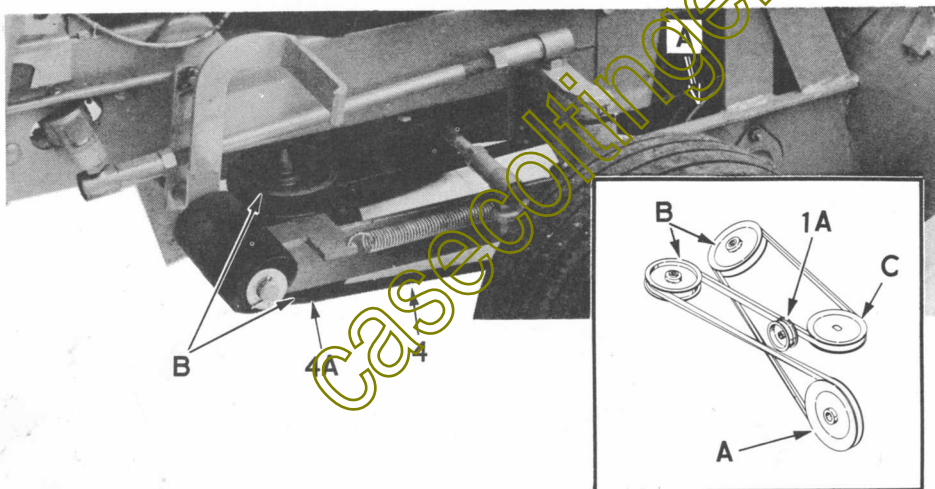

Figure 33
4. Install the drive belt first around the front of auger pulley (A), then around the back side of the two bracket mounted pulleys (B), and lastly around the tractor pulley (C), Figure 33. (See insert diagram.)
NOTE This adjustment affects the tension on the primary drive belt between the engine pulley and the upper pulley of the attachment drive only. The snowcaster belt is automatically tensioned by the spring loaded idler, Reference 4A, Figure 33.